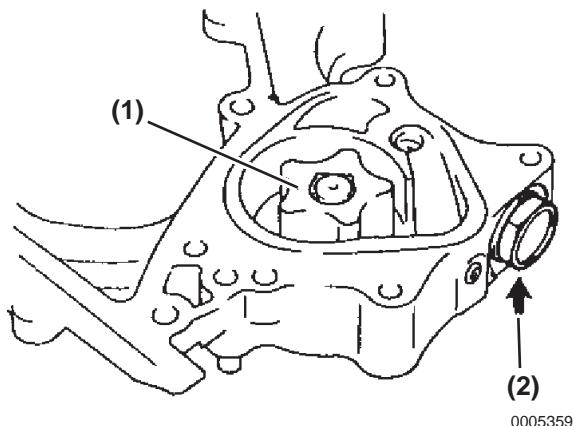

Figure 8-7
1. Remove the driven rotor (Figure 8-7, (1)).
2. Remove the plug, gasket, spring and relief valve (Figure 8-7, (1)).